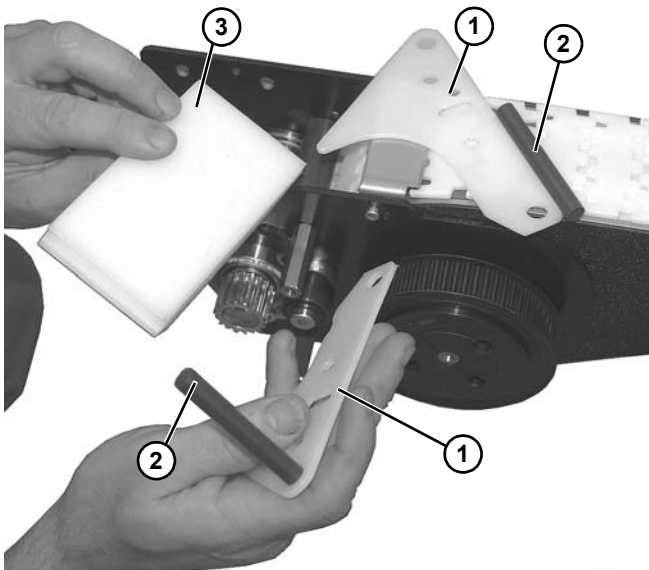

Figure 164
11. Disassemble side guide plates (**Figure 164, item 1**), wear rods (**Figure 164, item 2**), and wear bar (**Figure 164, item 3**). Replace worn components.